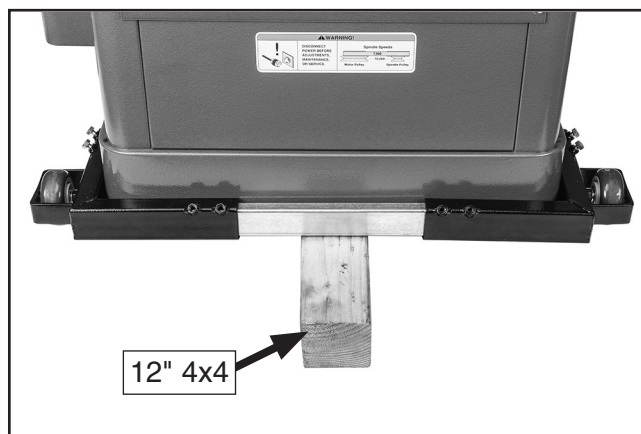

Figure 18. Remaining brackets and rail placed around back of machine, which is raised up with a wood block
- With the help of an assistant, lift rear side of machine, then place a 4x4 block under machine (see **Figure 18**).
- Slide each of the corner brackets onto remaining side rail, and slide assembly into rail-bracket assembly from **Step 6**. Adjust fit until rail-bracket assembly rests against machine body (see **Figure 18**).